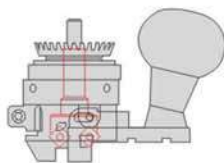
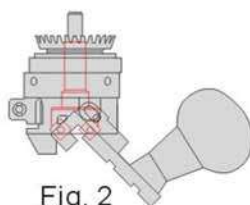

Fig. 1
Fig. 2
- ▶ Two adjustment function, the original L type (Fig. 1); the new for V type (Fig. 2).
GT-100CR install with fig. 1 for irregular chamfer
GT-100CR removes bearing and install with fig. 2 for